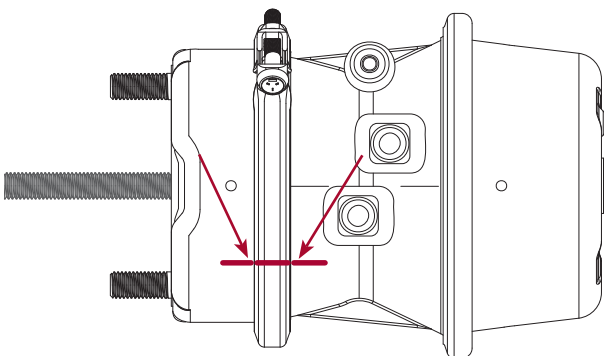

Figure 102: Mark Front Housing, Clamp and Centre Body Position
8. Mark orientation of the front housing and clamp relative to the centre body, to enable correct alignment of the air ports on reassembly. Refer Figure 102.